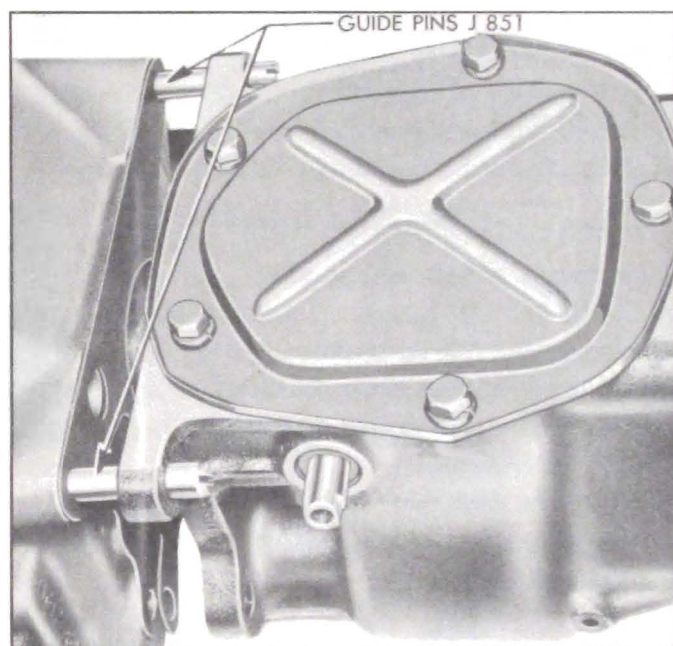

Figure 4-44—Transmission Guide Pins J851
6. Remove the two top transmission to fly-wheel housing bolts and install Guide Pins J 851 to support transmission. See figure 4-44. Remove lower bolts, then move transmission straight back and lower to floor. **CAUTION:** *If guide pins are not used and weight of transmission is allowed to rest on main drive gear in clutch driven plate hub, the driven plate will be damaged.*